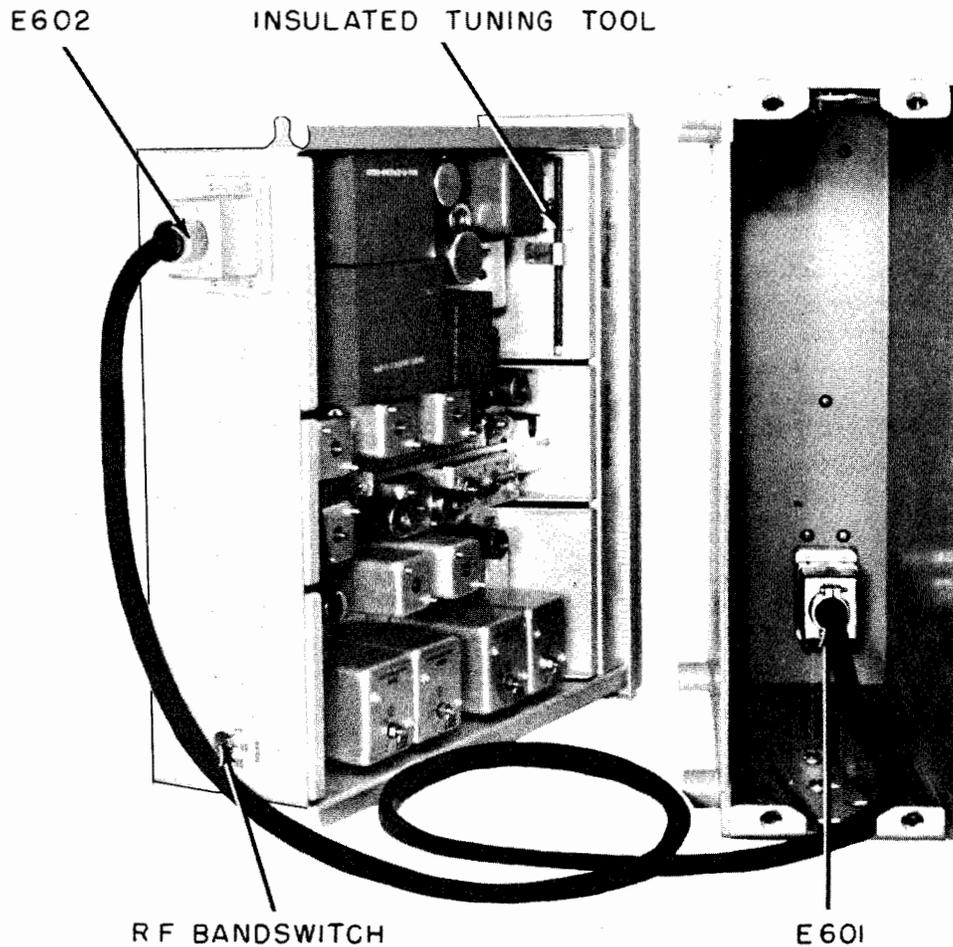

Figure 7-1. Receiver and Case, Connected by W601 Cable
(3) Connect test cable W601 between the receiver chassis receptacle J302, and the rear panel case receptacle J504. (See Fig. 7-1.)